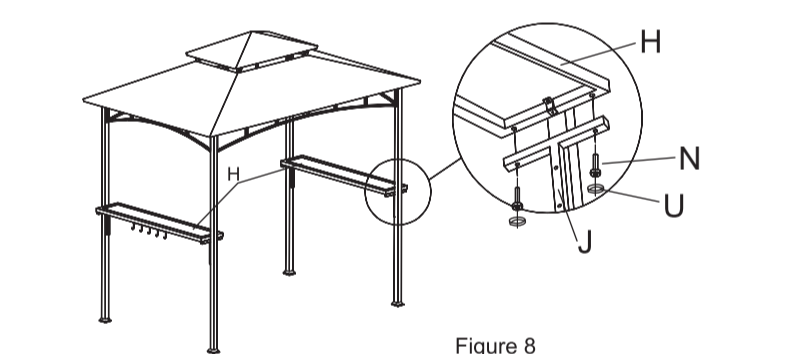

Figure 8
Attach the Side Shelf (H) to the Shelf Support Frame (J) with Bolt (O) and Bolt Cap (U) as shown in Figure 8.